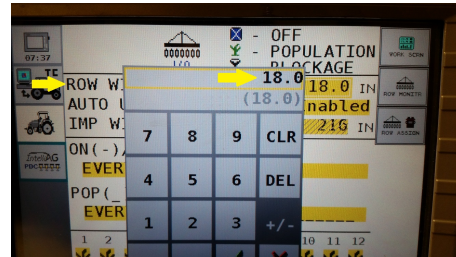

Figure 38
Step 12. Select **Row Width** and enter average row width of implement. (Figure 38)